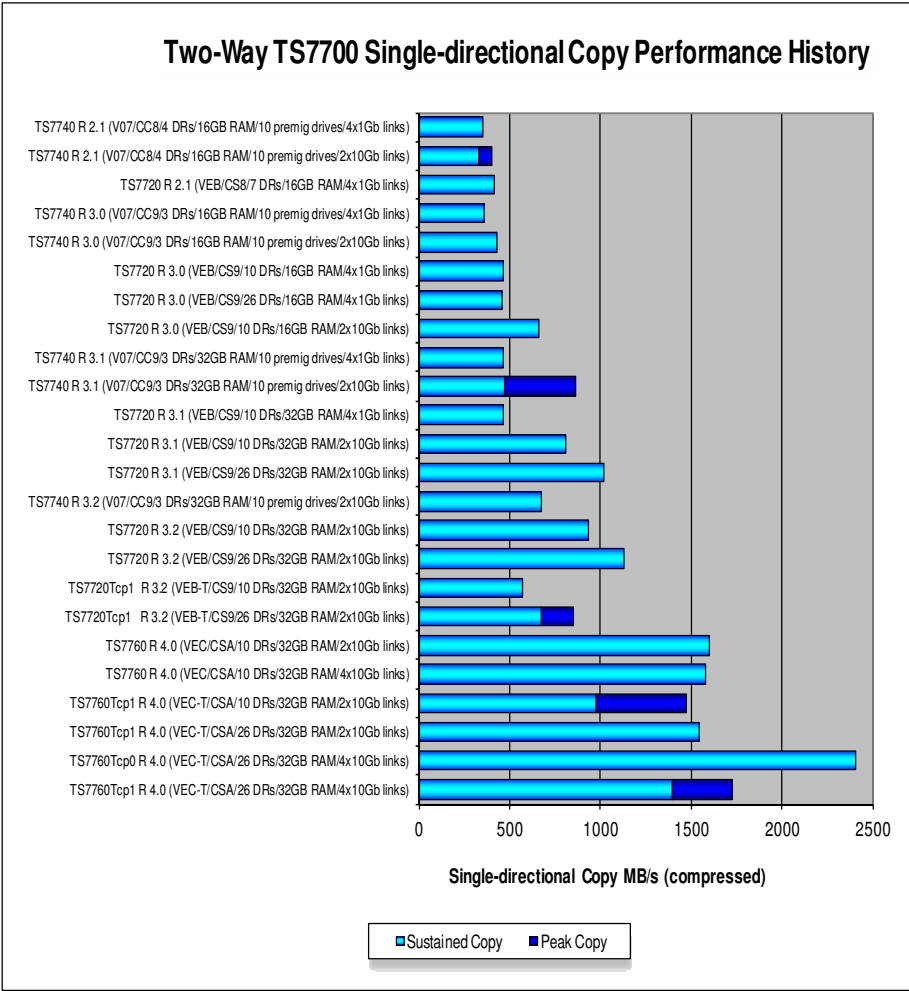

Figure 3. Two-way TS7700 Single-directional Copy Bandwidth.
Figures 3 through 4 display deferred copy rates. Data rate over the grid links are of compressed data. In each of the following runs, a deferred copy mode run was ended following several terabyte (TB) of data being written to the active cluster(s). In the subsequent hours, copies took place from the source cluster to the target cluster. There was no other TS7700 activity during the deferred copy except for premigration if the source or target cluster was a TS7740, a TS7720T, or a TS7760T. The premigration activity consumes resources and thus lower the copy performance on the TS7740, TS7720T, or TS7760T as compared to the TS7720 or TS7760.